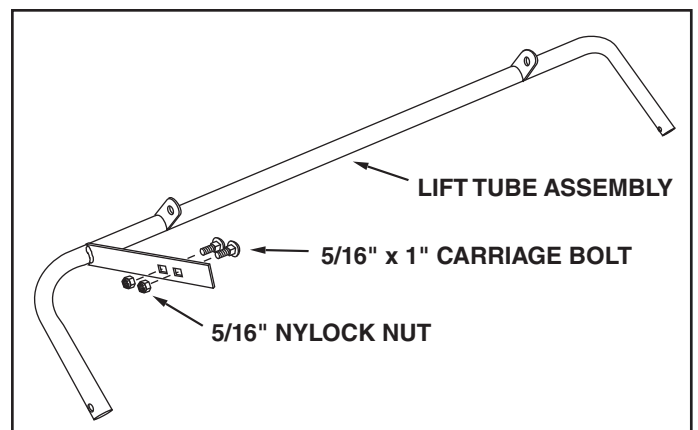

FIGURE 17
24. Temporarily install two 5/16" x 1" carriage bolts and 5/16" nylock nuts in the direction shown in the lift tube assembly. **Do not tighten.** See figure 17.